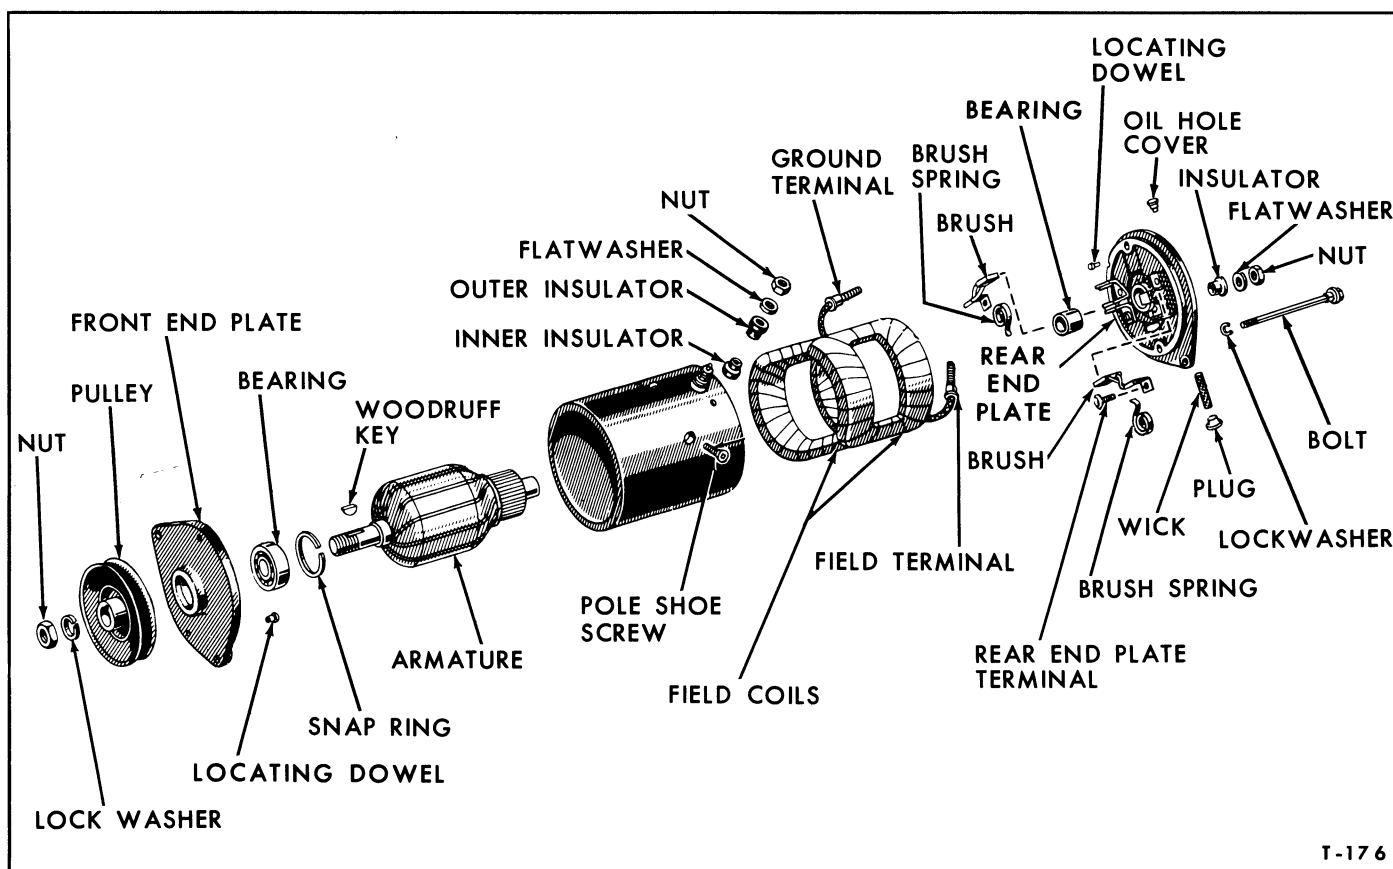

Fig. 7—Generator Disassembled
1. Remove the through bolts, the rear end plate and the armature frame, Figure 7. When separating the generator, take care not to lose the dowel pins.
1. Install the armature brush in the brush holder. Push the insulator through the hole from the external side of the end plate. Place the brush lead on the armature terminal. Secure the assembly by installing the flat washer and nut, Figure 7. Connect the other brush to the end plate with a screw and lockwasher.